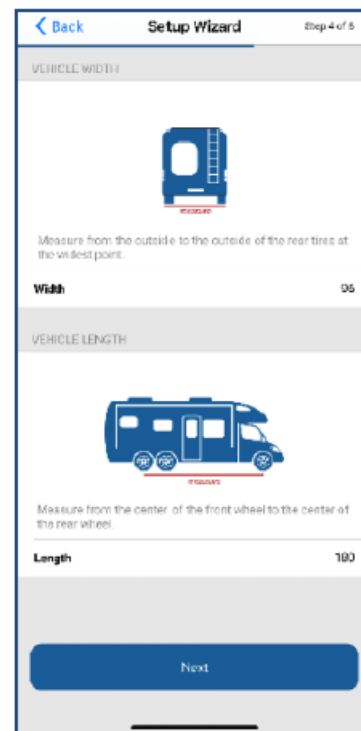

figure 7
Step 4) Enter the dimensions for the width and length of your vehicle (figure 7). Instructions indicating where to take these measurements on your selected vehicle type are below the front/back and side graphic images of the vehicle.